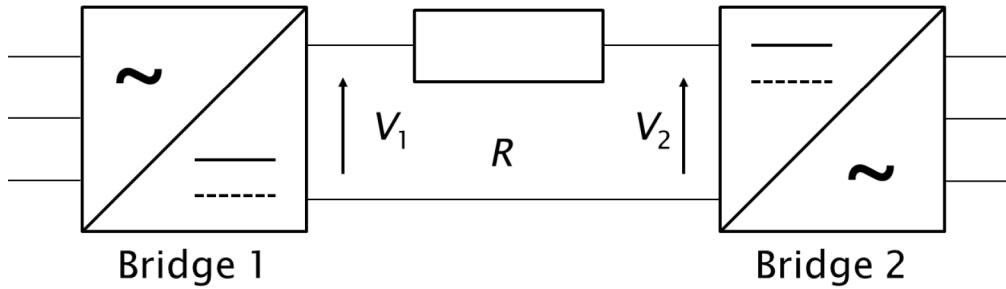

Figure Q1
Figure Q1 is a diagram of a DC power transmission system between two three-phase AC systems.
- (a) Calculate the voltages  $V_1$  and  $V_2$  for the transmission circuit shown in Figure Q1.